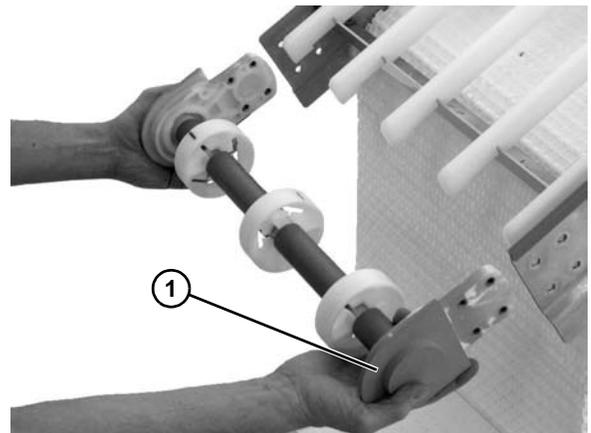

Figure 60
- Remove idler tail assembly (**Figure 60, item 1**).